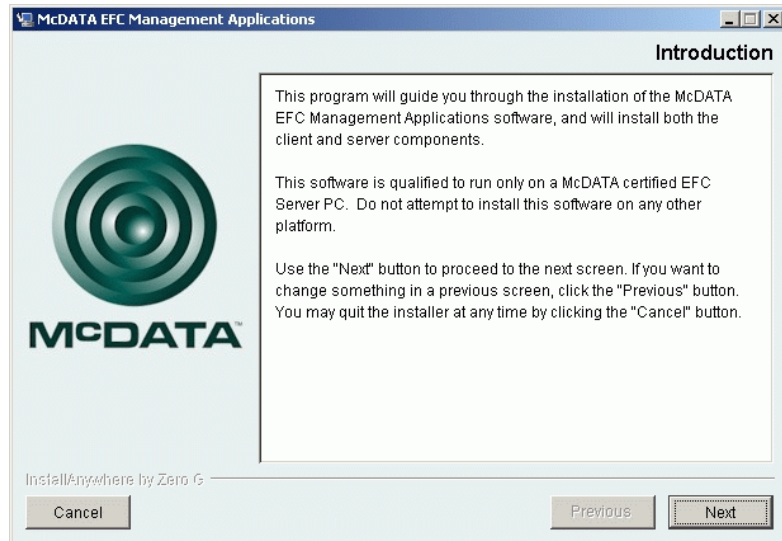

Figure 4-88 McDATA EFC Management Applications Dialog Box
7. Click *OK*. A series of message boxes appear as the *InstallAnywhere* third-party application prepares to install the SAN management software, followed by the *McDATA EFC Management Applications* dialog box (Figure 4-88 on page 4-93).